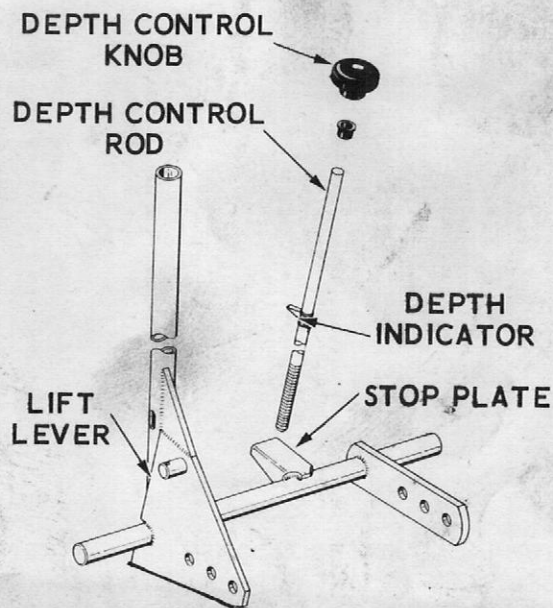

Figure 6.
4. Place lift lever in the fully lowered position and connect the lift links to the front holes in the tractor lift lever. The depth control indicator (Figure 6) must be in the highest setting (at the top of the dash notch) in order to lower the lift lever sufficiently to install the link pins.